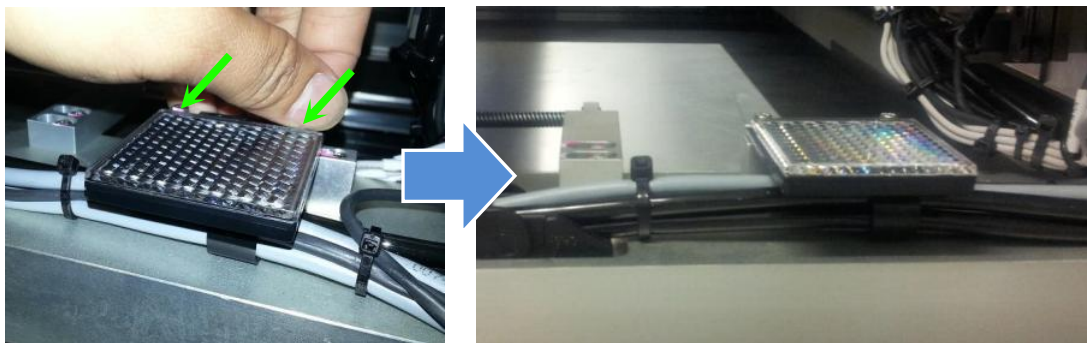

Figure 37 PCL Sensor Reflector Assembly
39. Assemble SENSOR, REFLECTOR, E39-R (P/N, 2284-0052) as below Figure 37